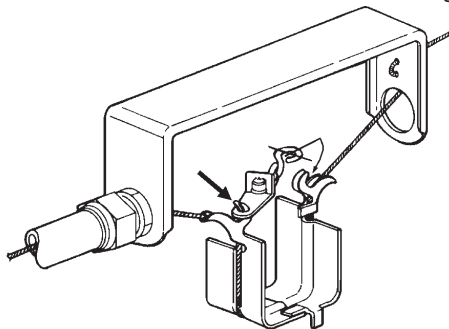

FIGURE 25
11. After fitting the pivot point of the two detector linkage halves together, squeeze the two halves and place the correctly rated ANSUL fusible link over both detector hooks. See Figure 25.